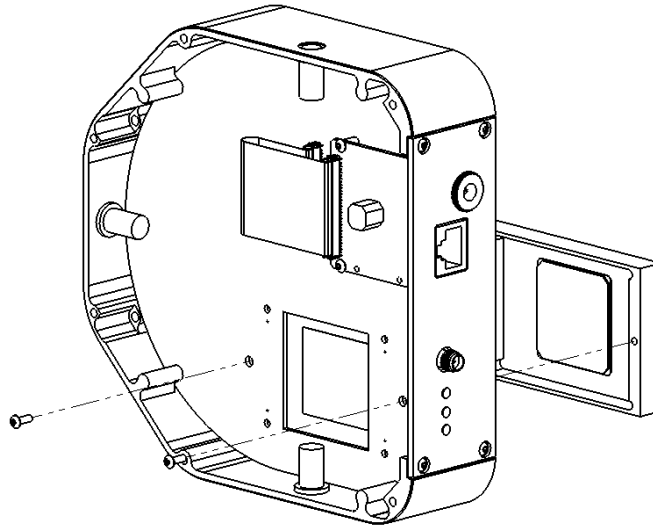

Figure B.3 Remove Bezel Assembly
STEP 3. **Remove** the two screws securing the bezel to the pyroelectric detector as shown in Figure B.3.